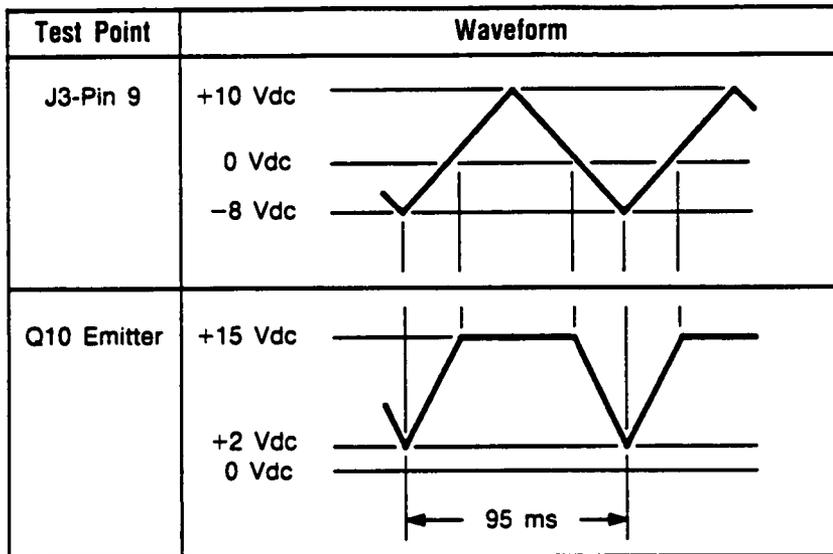

Figure 1. Waveforms with HP Loop Unlocked
3. Remove the TUNE voltage to the A5 Voltage Controlled Oscillator (refer to Service Sheet 1). The loop is then unlocked. The waveforms shown in Figure 1 should occur on the stated connector and pin.